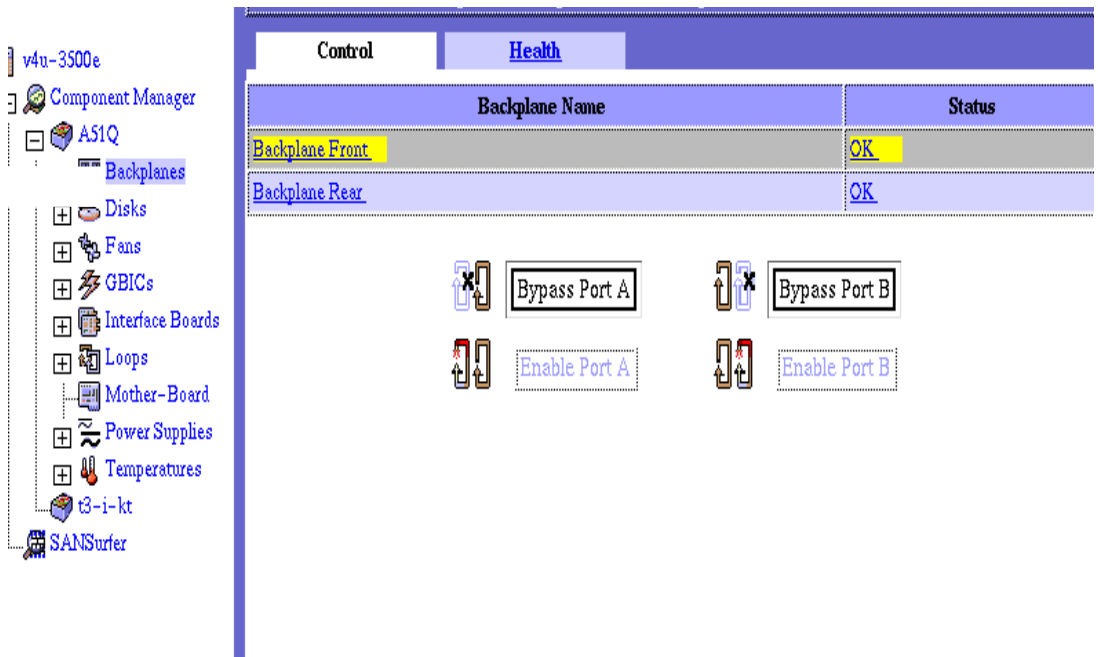

FIGURE 6-2 Sun StorEdge A5x00 Backplane Control Window
3. **Select the Control tab (see FIGURE 6-2).**